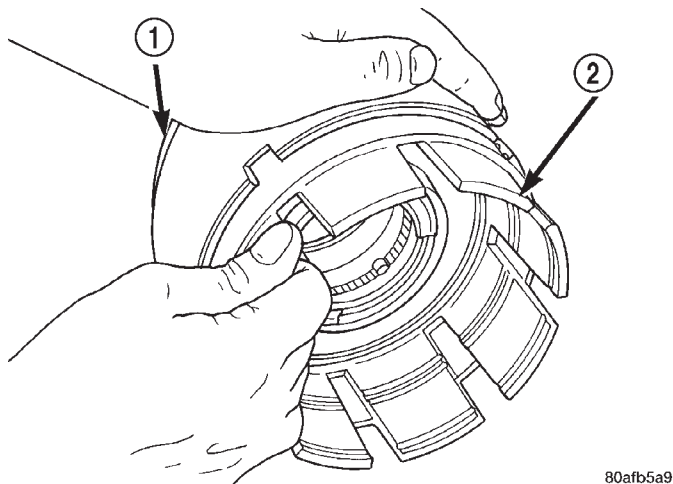

Fig. 249 Pull Retainer from Piston
(23) Separate clutch retainer from OD/Reverse piston (Fig. 249).